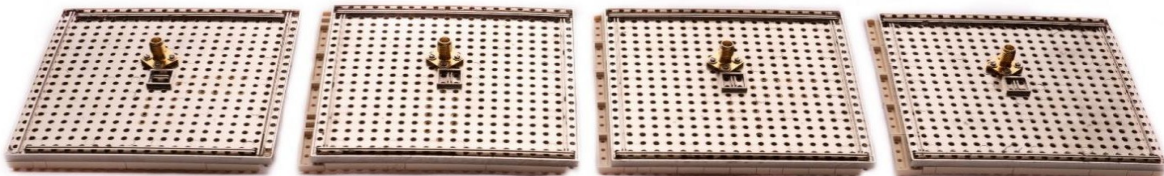

Figure 9 The backview of the ground planes
12. Connect the ground planes with the dielectrics as in Figure 9.